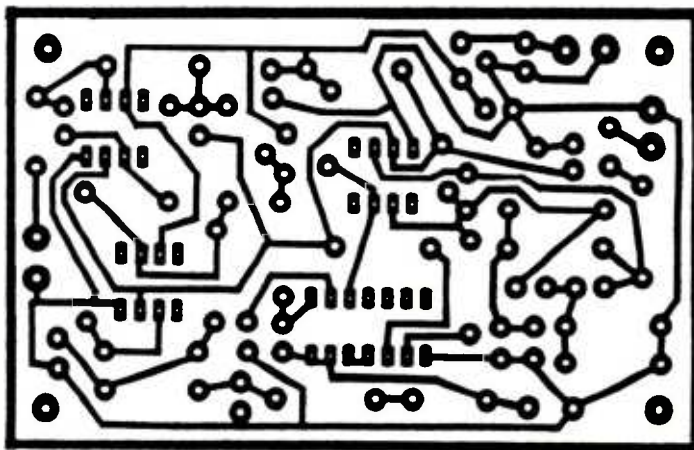

Fig. 3. Full-size PCB artwork for the SCA Adapter. Its use is recommended.
**PCB Assembly.** The printed-circuit board for the project (see Fig. 3) measures just 3-5/8  $\times$  2-1/4-inch and will help ease assembly if made. Point-to-point assembly can be used but will be a bit difficult to perform accurately.